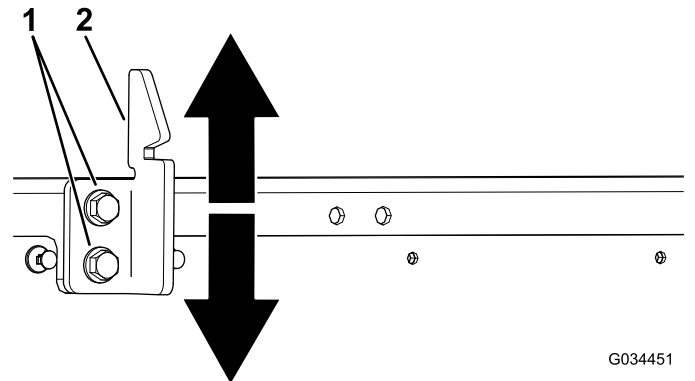

Figure 58
3. Loosen the 2 bolts on the bed-latch striker and move the striker up or down, depending on if the striker is too high or too low (Figure 58).
4. Tighten the 2 bolts on the bed-latch striker (Figure 58).